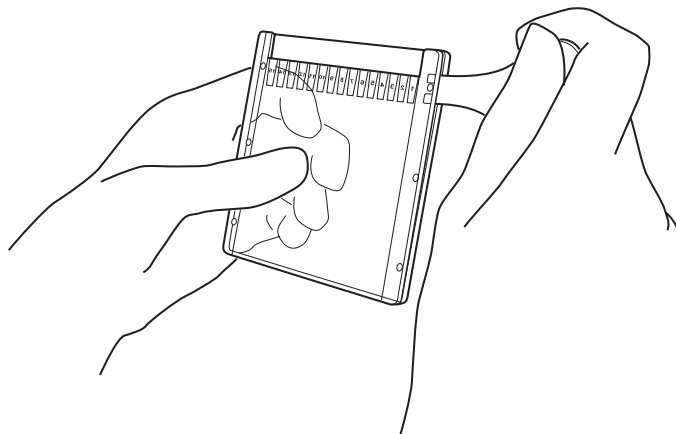

Figure 7. Opening the Gel Cassette
Once electrophoresis is finished, remove the gel cassette from the gel tank. Insert the mPAGE™ Gel Cassette Opener into the gap between the two plates at one of the three contact points along each side of the cassette (see Figure 7). Repeat for all six contact points of the cassette until the two plates are separated.
- Open the gel cassette. (See Figure 7). To maintain consistent orientation, carefully remove the short plate, allowing the gel to remain on the tall plate. Remove the stacker by cutting 5 mm below the well bottom.
5. Open gel cassette. (See Figure 7). For best transfer performance, the stacker of mPAGE™ Bis-Tris Precast Gels must be removed by cutting 5 mm below the well bottom before performing semi dry transfer.